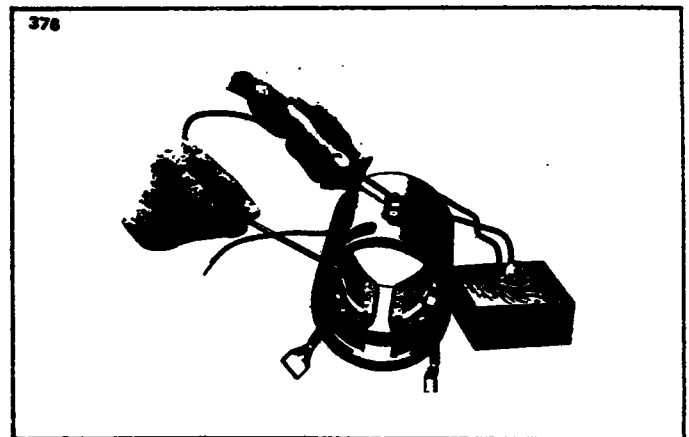

Figure 11-50. Testing Motor Fields for Grounds
a. Check the field coils for grounds (Refer to Figure 11-50) by placing one test probe on the frame and the other on the starter terminal. Be sure the brushes are not accidentally touching the frame. If the lamp lights, the fields are grounded. Repair or replace.